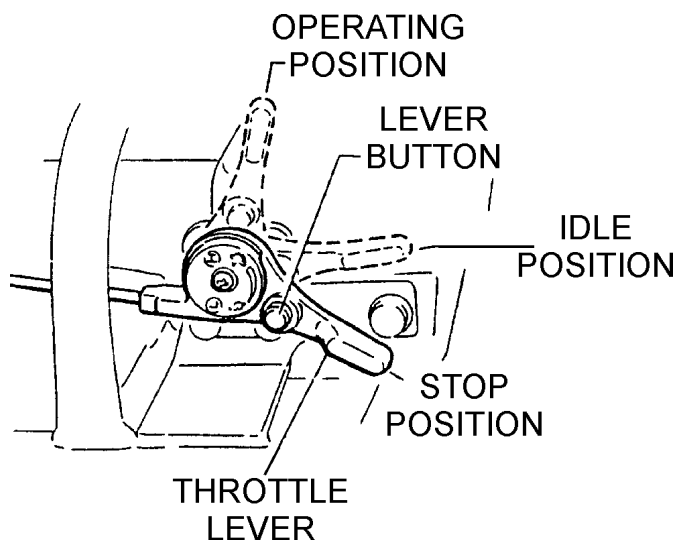

Figure 6. Throttle Lever (Idle Position)
2. Move the throttle lever (Figure 6) to the **idle** position.